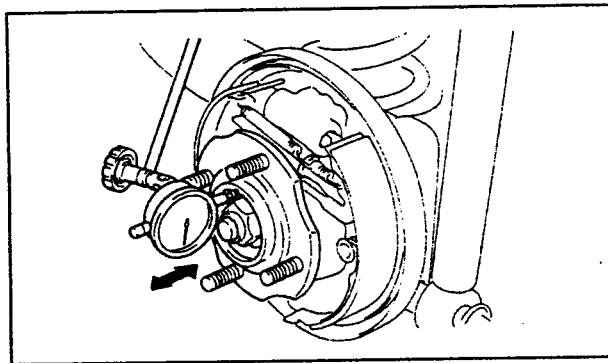

Fig. 11.6. — Checking a rear hub end float.
- Arrange a dial gauge as shown in Fig. 11.6, with the stylus placed against the outer face of the wheel hub. Push the hub fully towards the inside, set the dial gauge to "Zero" and then move the hub to and fro.